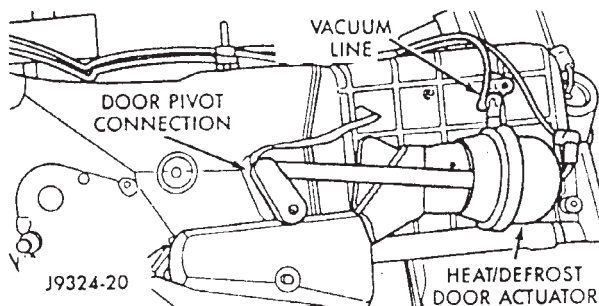

Fig. 22 Heat/Defrost Door Actuator
- (1) Remove the heater-A/C unit from the vehicle (refer to Heater-A/C Unit Removal).
- (2) Turn the heater-A/C unit upside down.
- (3) Disconnect the vacuum line (Fig. 22).
- (4) Separate the door pivot connection from the door pivot pin (Fig. 22).
- (5) Remove the retaining screws.
- (6) Remove the heat/defrost door actuator (Fig. 22).